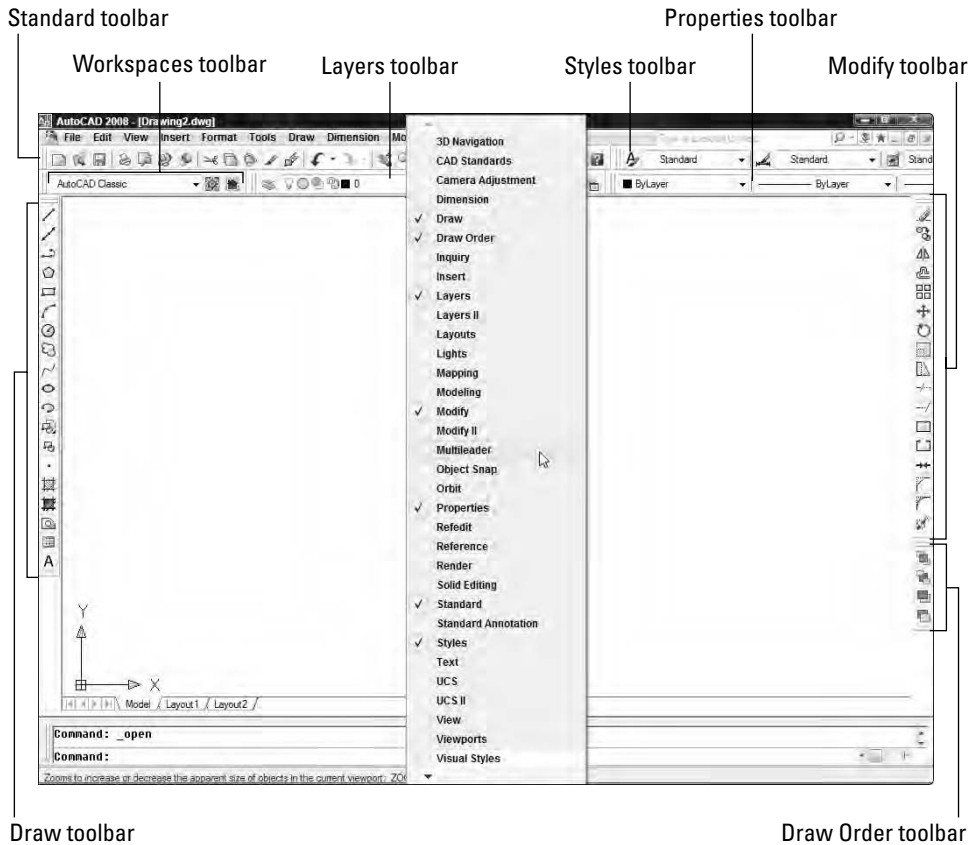

Figure 2-3:
As in other Windows programs, the toolbars in AutoCAD provide rapid access to the most commonly used AutoCAD commands. AutoCAD 2008 ships with toolbars in this default arrangement (as shown in Figure 2-3):
- ✔ To open or close toolbars, right-click any toolbar button and choose from the list of available toolbars, as shown in Figure 2-3.
The AutoCAD screen in Figure 2-3 shows the default toolbar arrangement, which works fine for most people. Feel free to close the Draw Order toolbar; you aren't likely to use its features frequently. You may want to turn on a couple of additional toolbars, such as Object Snap and Dimension, as you discover and make use of additional features. Throughout this book, I point out when a particular toolbar may be useful.